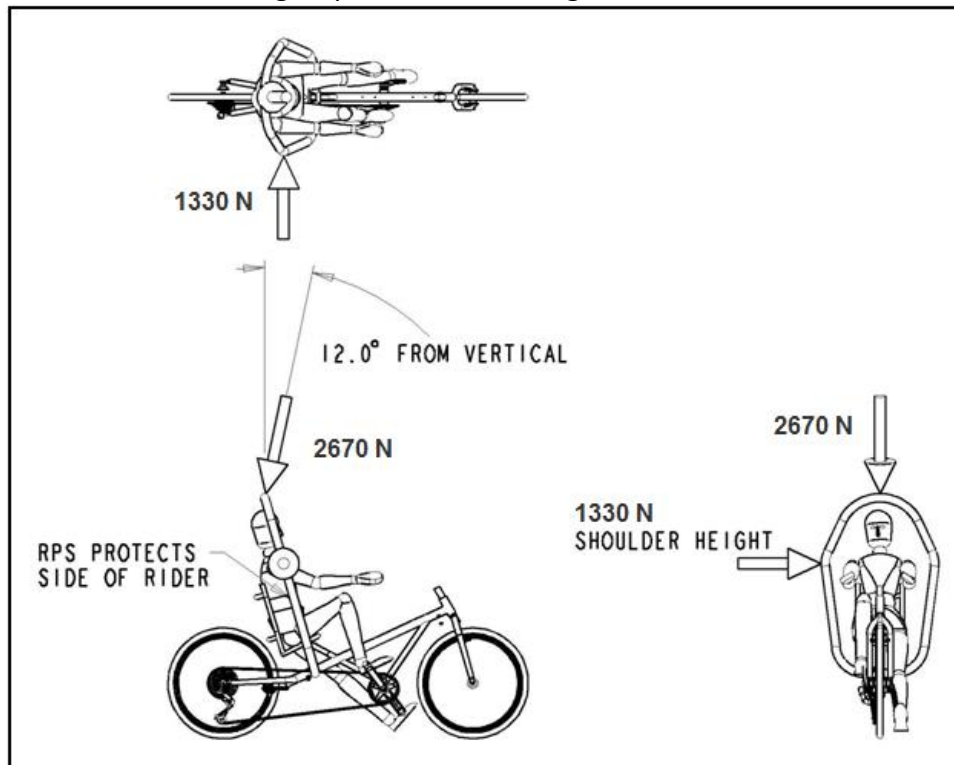

Figure 1: Example of Proper RPS Design and Side and Top Load Case Applications (Note: Loads shown should not be applied concurrently in analysis and/or testing)
- 2) RPS Attachment The RPS must be structurally attached and braced to the vehicle frame or fairing and, with the vehicle in the upright position, must extend above the helmeted head(s) of the driver(s) such that no part of any driver will touch the ground in a rollover or fall over condition. The RPS may be incorporated into the fairing, providing that that part of the fairing is used in all events. Teams must demonstrate that the RPS meets both functional requirements and loading requirements. See Figure 1